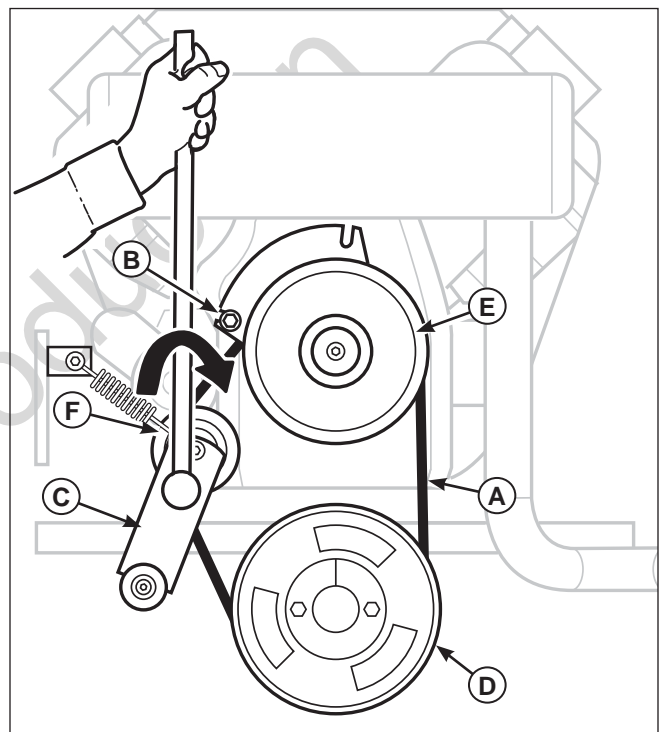

Figure 46. PTO Clutch Belt Replacement
- Raise the hood to gain access to the PTO clutch belts (**A**, **Figure 46**) located on the rear of the engine.
3. Loosen the nut on the spring anchor eyebolt (B) to release the majority of the belt tension. Use caution and remove the nut to completely release the tension.
4. Remove the old hydraulic pump drive belts and replace with new ones. Make sure the V-side of the belt runs in the grooves of the hydraulic pump pulleys (C) and the engine drive pulley (D).
5. Reinstall the spring anchor eyebolt into the anchor tab and loosely fasten the nut. Adjust the anchor eyebolt until a measurement of 6-1/2" (16,5 cm) is achieved from the outside of the spring hooks. See Figure 46. Tighten the nut.